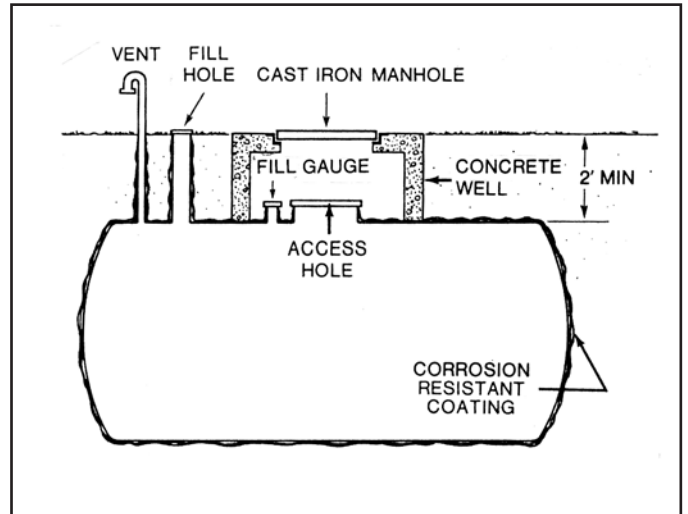

Figure 14. Typical example of properly installed underground fuel tank
- Underground tanks (Figure 14) are to be buried at least 2 feet below grade.